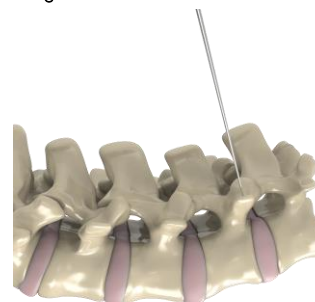

Figure 3
- The prepared pathway can be explored with the Ball Tip Sounder (39-SP-0011) to confirm that integrity of the pedicle wall has not been violated (Figure 3).